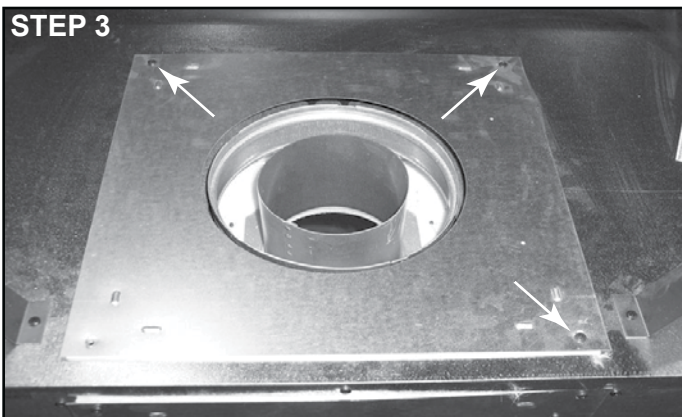

Figure 9.6 Cover Plate, Remove Screws
- Remove three remaining screws holding the cover plate and gasket surrounding flue. See Figure 9.6. Remove cover plate and gasket; set aside.